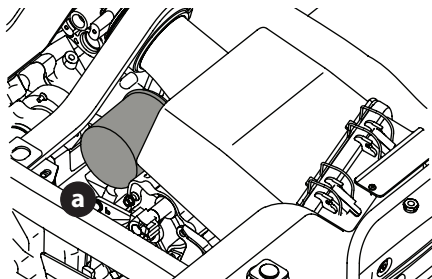

Figure 31
3. Remove the oil filter (a) (Figure 31).